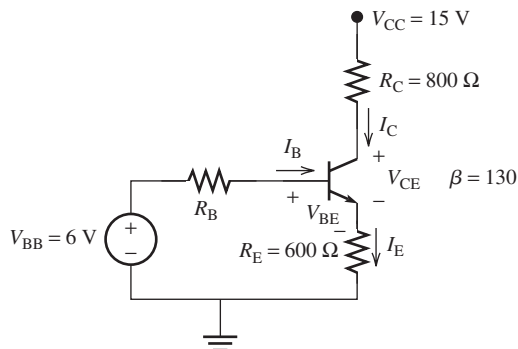

FIGURE P8.40 Transistor circuit for Problem 8.40.
- 8.40 (A)* Determine the value of R_B in Figure P8.40 such that the output voltage is 3.93 V.